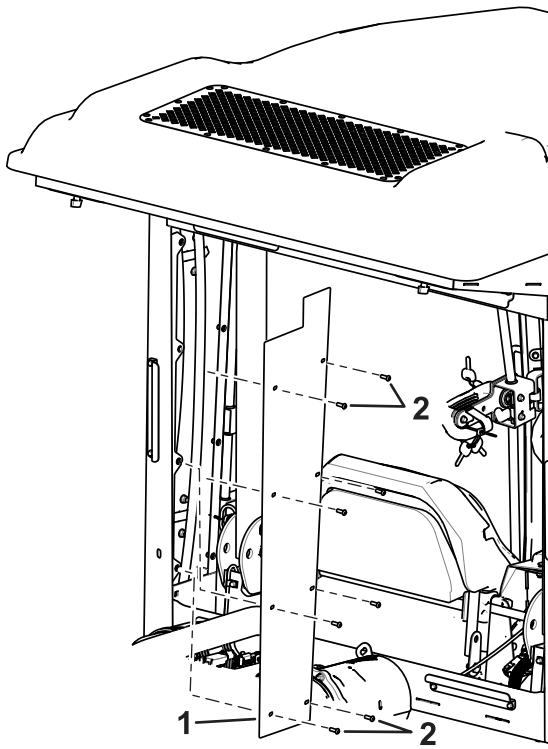

Figure 10
- 1. Remove the left and right panels from inside the cab as shown in Figure 10.